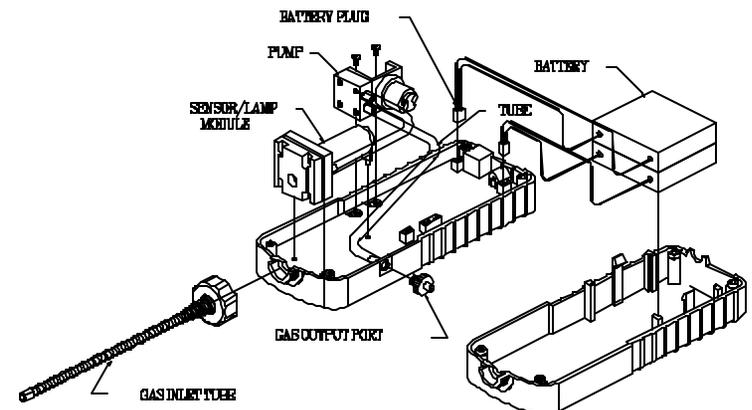

Figure 8.1 Main components of MiniRAE Plus Professional PID
As shown in Figure 8.1, the major items of MiniRAE Plus Professional PID Unit that require periodic maintenance are:
2. Refer to Figure 8.1, unscrew the probe assembly, remove four screws that hold the back cover of the unit to gain access to the battery compartment.
2. Refer to Figure 8.1, unscrew the probe assembly, remove four screws and open the MiniRAE Plus Professional PID Unit. Remove the sensor module by gently pulling the module away from the PCB of the top cover.
8. Referring to Fig. 8.1, insert the sensor module into the three holes on the PCB. Make sure that the two Tygon tubes are
2. Refer to Figure 8.1, unscrew the probe assembly, remove four screws and open the PID covers. Remove the sensor module from the PCB. Disassemble the sensor block from the lamp house as described in section 8.2.
2. Refer to Figure 8.1, unscrew the probe assembly, remove four screws and open the Professional PID Unit.
3. Refer to Figure 8.1, and carefully remove two screws that hold the pump to the top cover. Disconnect two Tygon tubes connected to the pump. Note which tube goes to the inlet barb and which goes to the outlet barb of the pump. Disconnect the electrical wire from the pump to PCB. Remove the pump.